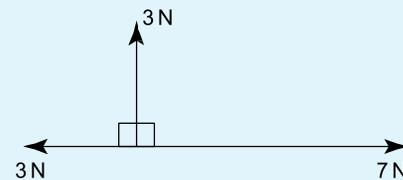

Figure 4.35
14. The magnitude of the resultant of the vectors shown in Figure 4.35 is: